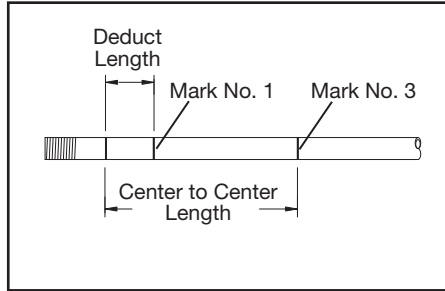

Figure 19b
1. Measure distance from end of conduit to start of bend and mark conduit. ( Mark 1 ) See Figure 19b.